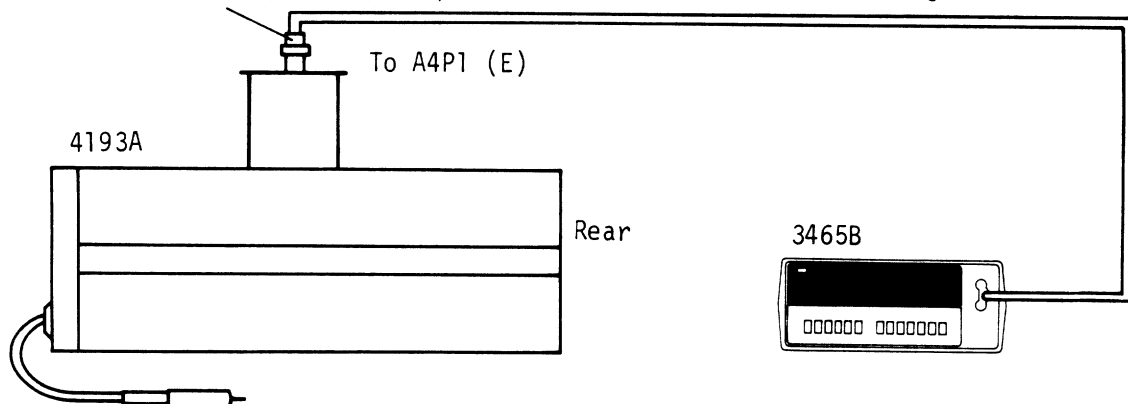

Figure 5-13. I Channel Sampling Diode DC Bias Adjustment Setup.
2. Disconnect the cables from A4P1 (E), A4P2 (I SP IN), and A4P3 (F).
4. Connect the INPUT terminal of the 3465B to A4P1 (E) as shown in Figure 5-13.